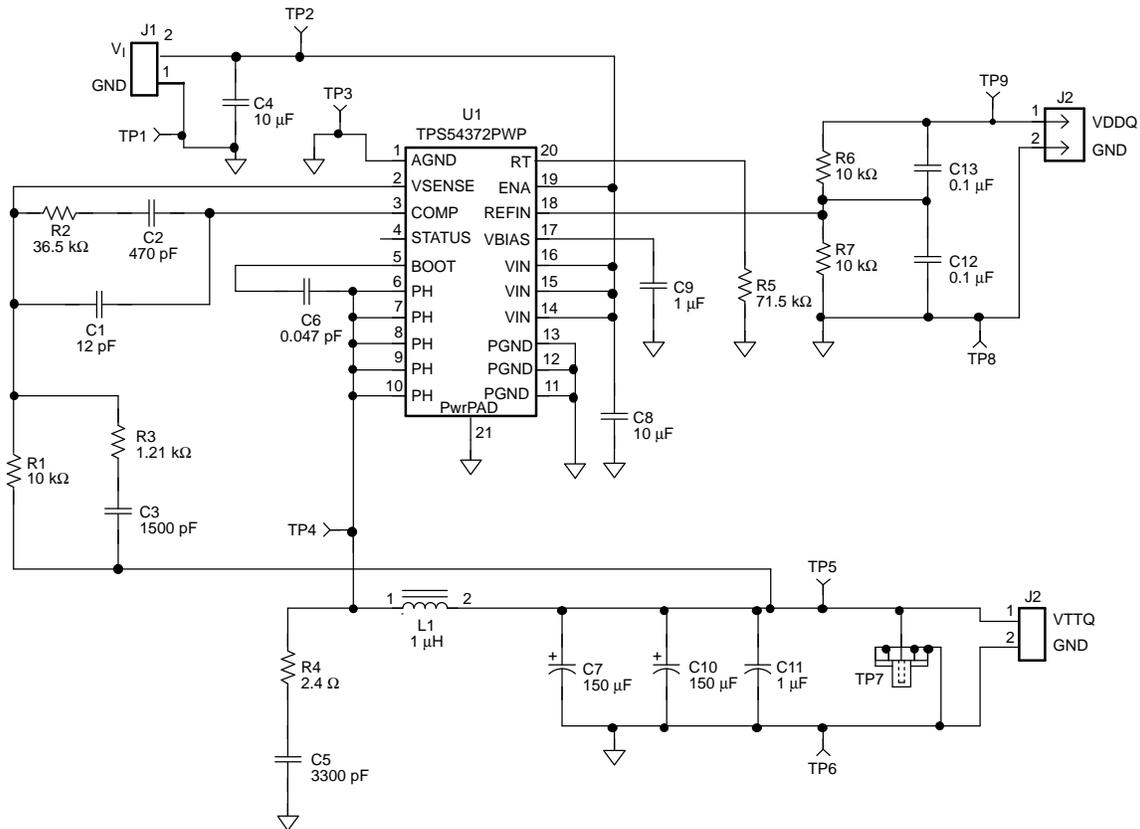

Figure 8. Application Circuit
- (1) Specified by design
- (2) Static resistive loads only
- (3) Specified by the circuit used in Figure 8
Figure 8 shows the schematic diagram for a typical TPS54372 application. The TPS54372 (U1) can provide up to 3 A of output current at a nominal output voltage of one half of V_{DDQ} (typically 1.25 V). For proper operation, the PowerPAD underneath the integrated circuit TPS54372 is soldered directly to the printed-circuit board.